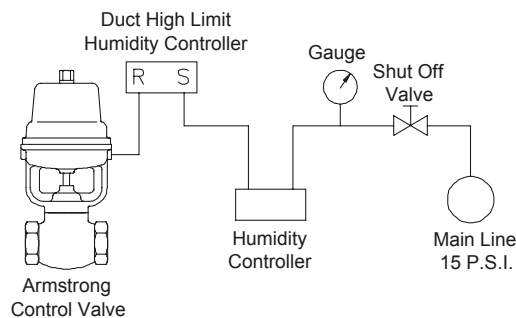

Figure 9-1. Standard compressed air hook-up for pneumatic control.
Piping of air supply to pneumatic control valves are discussed in Figures 9-1, 9-2 and 9-3 while wiring for electric control valves is discussed in Figure 10-1. For more installation information of Armstrong Control Valves, see Installation Bulletin IB-58.
**Step 9A: Install Pneumatic Piping** in accordance with Figures 9-1, 9-2, or 9-3 or engineer's layout.